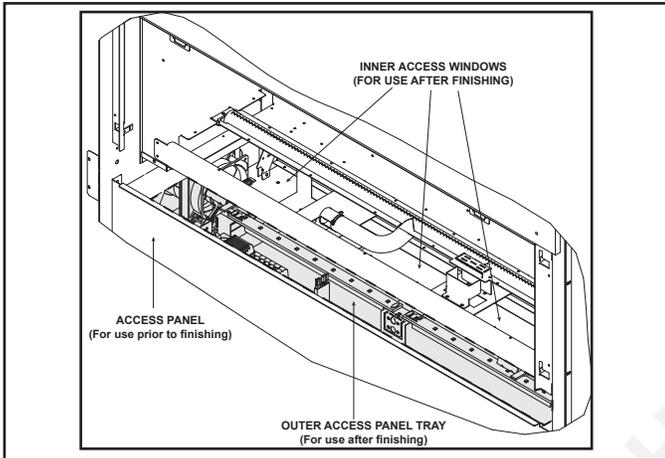
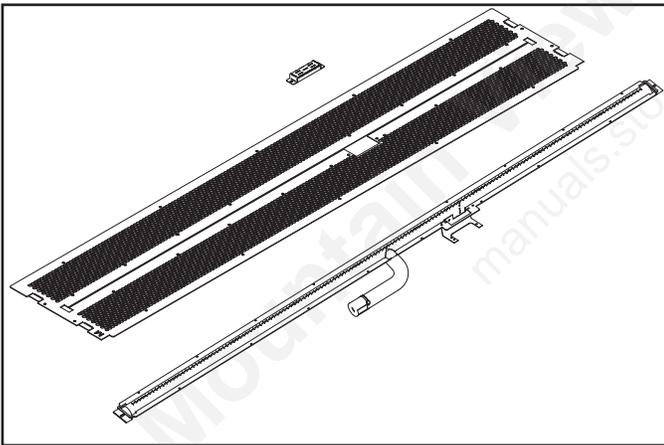

Figure 9.2 Gas and Electrical Access
Figure 9.3. Base Pan with Burner and Pilot Cover
The lower access cover panel is removable if finishing material is not installed. See Figure 9.2.
6. There are three access windows located on the interior of the firebox bottom. See Figure 9.2. Remove screws and plate to access the manual shutoff valve included with this fireplace.
2. Remove the base pan. It is attached with 14 screws to the interior firebox bottom and with 19 screws to the burner assembly. If your appliance is a model that has the glass rock media, you must also remove the pilot shield cover at this time. See Figure 9.2 and Figure 9.3.
3. Remove the two screws securing the burner to the firebox sides and disengage burner from over orifice. Remove burner. See Figure 9.3. Remove screws from pilot assembly.
4. Remove access panel covers or glass windows, along with gaskets. Gaskets may be fragile. Handle with care. See Figure 9.2.